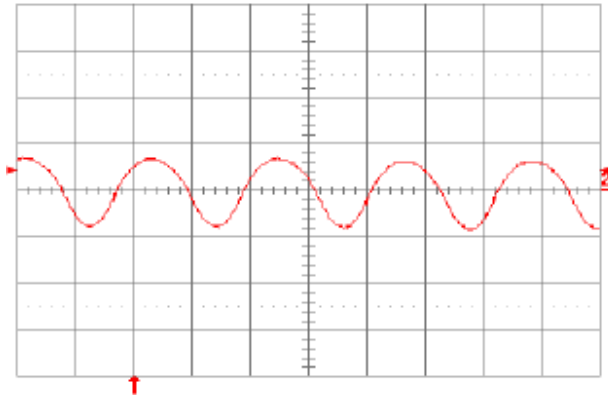

**Fig. 1.8V.12:** Test setup for measuring input reflected ripple currents,  $i_c$  and  $i_s$
**Fig. 1.8V.1:** Available load current vs. ambient air temperature and airflow rates for SQE48T30018 converter mounted vertically with air flowing from pin 3 to pin 1, MOSFET temperature  $\leq 120$  °C,  $V_{in} = 48$  V.
**Fig. 1.8V.3:** Efficiency vs. load current and input voltage for SQE48T30018 converter mounted vertically with air flowing from pin 3 to pin 1 at a rate of 300 LFM (1.5 m/s) and  $T_a = 25$  °C.
**Fig. 1.8V.5:** Power dissipation vs. load current and input voltage for SQE48T30018 converter mounted vertically with air flowing from pin 3 to pin 1 at a rate of 300 LFM (1.5 m/s) and  $T_a = 25$  °C.
**Fig. 1.8V.2:** Available load current vs. ambient air temperature and airflow rates for SQE48T30018 converter mounted horizontally with air flowing from pin 3 to pin 1, MOSFET temperature  $\leq 120$  °C,  $V_{in} = 48$  V.
**Fig. 1.8V.4:** Efficiency vs. load current and ambient temperature for SQE48T30018 converter mounted vertically with  $V_{in} = 48$  V and air flowing from pin 3 to pin 1 at a rate of 200 LFM (1.0 m/s).
**Fig. 1.8V.6:** Power dissipation vs. load current and ambient temperature for SQE48T30018 converter mounted vertically with  $V_{in} = 48$  V and air flowing from pin 3 to pin 1 at a rate of 200 LFM (1.0 m/s).
**Fig. 1.8V.7:** Turn-on transient at full rated load current (resistive) with no output capacitor at  $V_{in} = 48$  V, triggered via ON/OFF pin. Top trace: ON/OFF signal (5 V/div.). Bottom trace: Output voltage (1 V/div.). Time scale: 2 ms/div.
**Fig. 1.8V.8:** Turn-on transient at full rated load current (resistive) plus 10,000  $\mu$ F at  $V_{in} = 48$  V, triggered via ON/OFF pin. Top trace: ON/OFF signal (5 V/div.). Bottom trace: Output voltage (1 V/div.). Time scale: 2 ms/div.
**Fig. 1.8V.9:** Output voltage response to load current step-change (10 A – 20 A – 10 A) at  $V_{in} = 48$  V. Top trace: output voltage (100 mV/div.). Bottom trace: load current (10 A/div.). Current slew rate: 0.1 A/ $\mu$ s.  $C_o = 1$   $\mu$ F ceramic. Time scale: 0.2 ms/div.
**Fig. 1.8V.10:** Output voltage response to load current step-change (10 A – 20 A – 10 A) at  $V_{in} = 48$  V. Top trace: output voltage (100 mV/div.). Bottom trace: load current (10 A/div.). Current slew rate: 5 A/ $\mu$ s.  $C_o = 470$   $\mu$ F POS + 1  $\mu$ F ceramic. Time scale: 0.2 ms/div.
**Fig. 1.8V.11:** Output voltage ripple (20 mV/div.) at full rated load current into a resistive load with  $C_o = 10$   $\mu$ F tantalum + 1  $\mu$ F ceramic and  $V_{in} = 48$  V. Time scale: 1  $\mu$ s/div.
**Fig. 1.8V.13:** Input reflected-ripple current,  $i_r$  (100 mA/div.), measured at input terminals at full rated load current and  $V_{in} = 48$  V. Refer to Fig. 1.8V.12 for test setup. Time scale: 1  $\mu$ s/div.
**Fig. 1.8V.14:** Input reflected-ripple current,  $i_s$  (10 mA/div.), measured through 10  $\mu$ H at the source at full rated load current and  $V_{in} = 48$  V. Refer to Fig. 1.8V.12 for test setup. Time scale: 1  $\mu$ s/div
**Fig. 1.8V.15:** Output voltage vs. load current showing current limit point and converter shutdown point. Input voltage has almost no effect on current limit characteristic.
**Fig. 1.8V.16:** Load current (top trace, 20 A/div., 50 ms/div.) into a 10 m $\Omega$  short circuit during restart, at  $V_{in} = 48$  V. Bottom trace (20 A/div., 2 ms/div.) is an expansion of the on-time portion of the top trace.